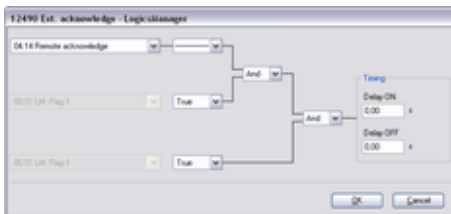

Fig. 244: LogicsManager function "Ext. acknowledge"
3. ➤ Configure the LogicsManager function "Ext. acknowledge" as shown in (Fig. 244).